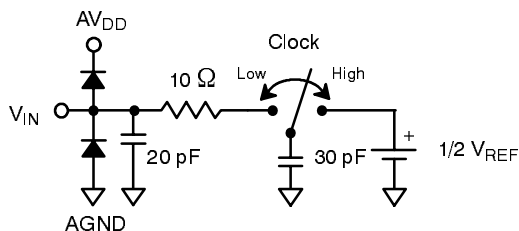

Figure 5. Analog Input Equivalent Circuit
- ³ See V_{IN} input equivalent circuit (Figure 5.). Switched capacitor analog input requires driver with low output resistance.